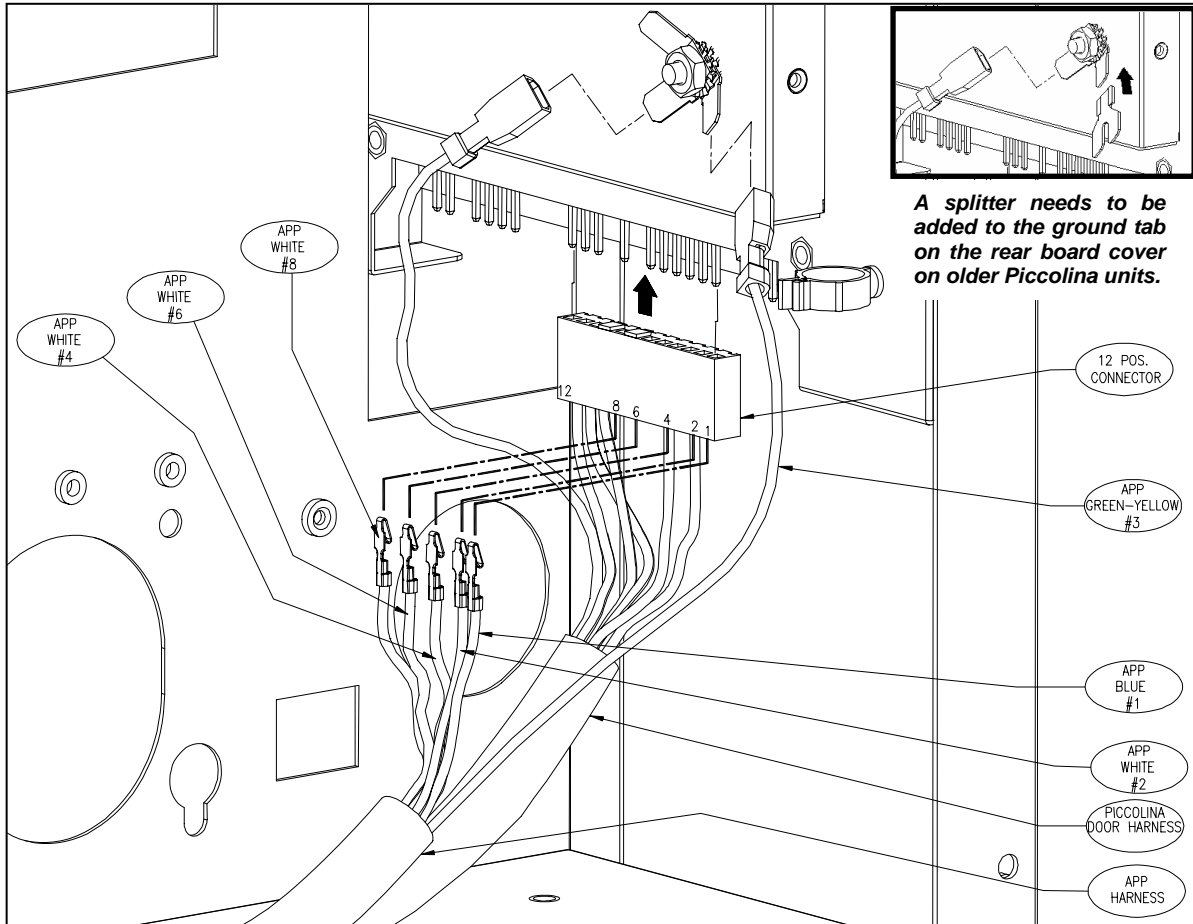

Figure 7 - Insert Terminals from New APP Auxiliary Harness into Existing Piccolina General Harness Connector.
2. For older Piccolina models, add the .250 splitter (provided in the upgrade kit) onto the ground tab on the rear board cover (*inset on Figure 7*).
3. Using the following chart as a reference, make all the necessary wiring connections from the APP Auxiliary harness to the machine (*Figure 7*).